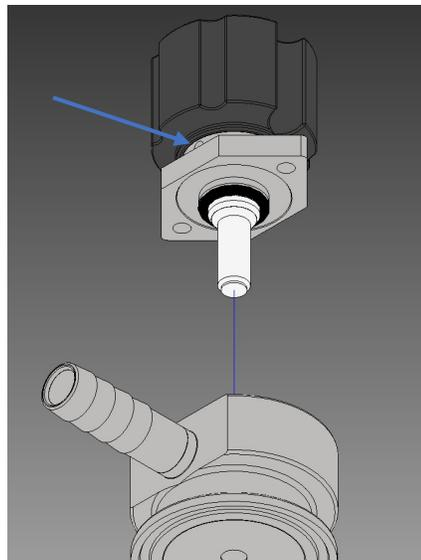

FIGURE F. 18. - TOP HALF INSTALLATION
11. Join together the upper half of the valve and the valve body (see Figure F.18.). Ensure that the leak detect hole aligns in the same direction as the valve body outlet, as indicated.